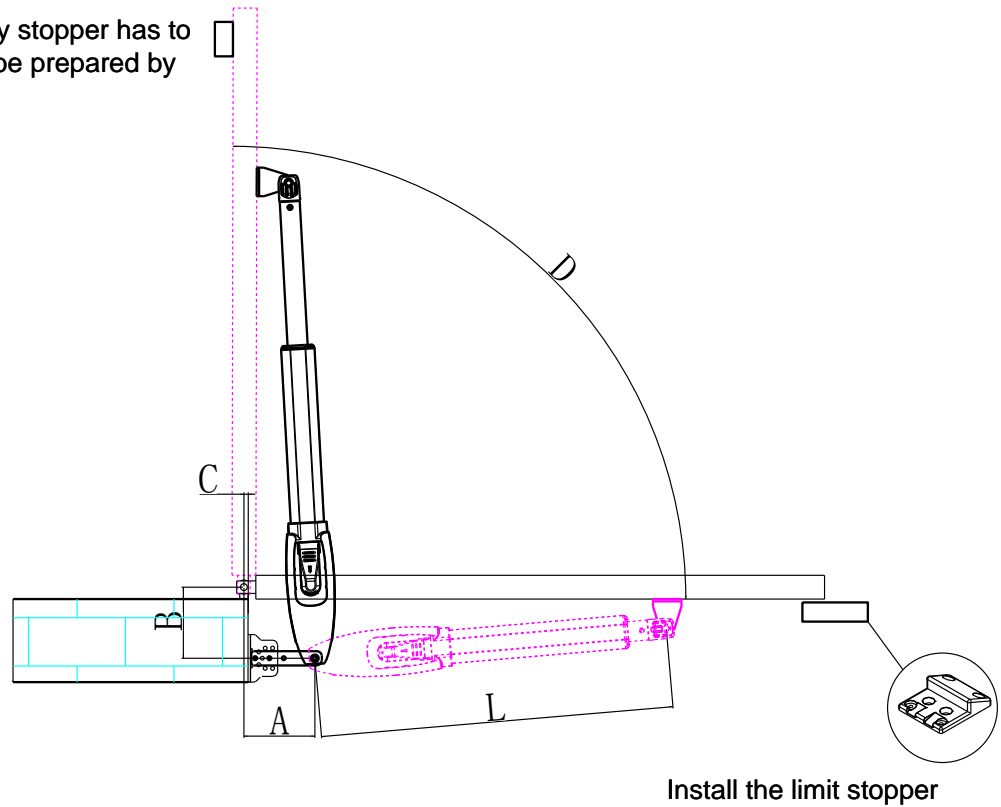

Figure 9
- To ensure safety and protect the machines, please install a gate stopper at the open limit position when the door opens outward to prevent the gate from running over its travel. Meanwhile, to enable the 2 swings to close to its accurate limit position, please install a limit stopper at the close limit position (as shown in figure 9). Similarly, when the door opens inward, please install a limit stopper at the close limit position (as shown in figure 8).